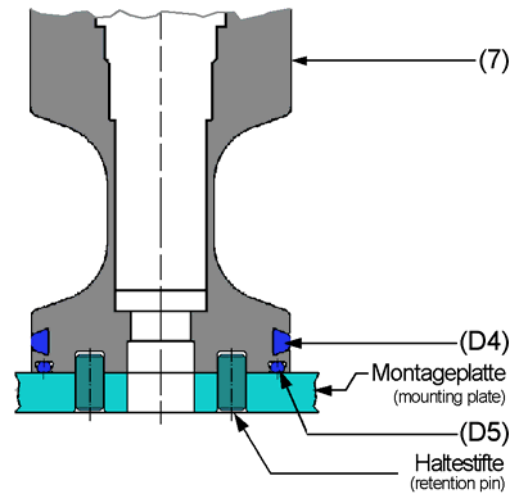

fig. 3
- Place the hook spanner in the bore hole (B1) and screw out the upper piston (7) at the top with the mounting plate (see fig. 3 /page 8).
- Push off the insert (5), the upper seal (D1) and the upper bearing bush (4) of the piston (7) against direction 'X'.
- Remove the valve lift stop (16) upwards.